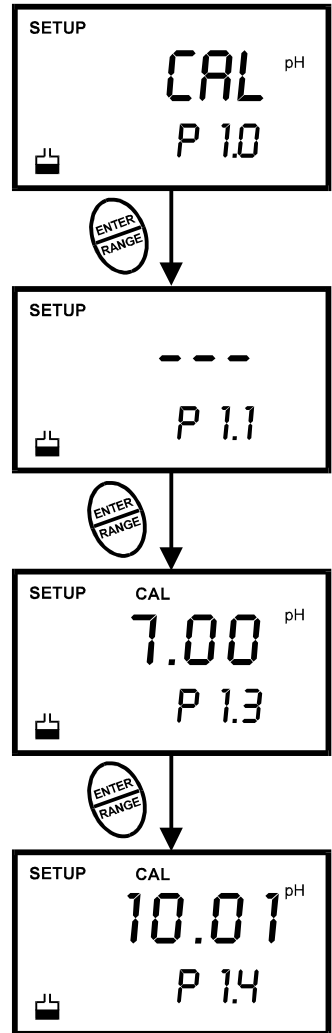

Figure 26 – P1.0: View Calibration Data for pH
- 4 Press the **ENTER** key repeatedly to view previous calibration data. See Figure 26.